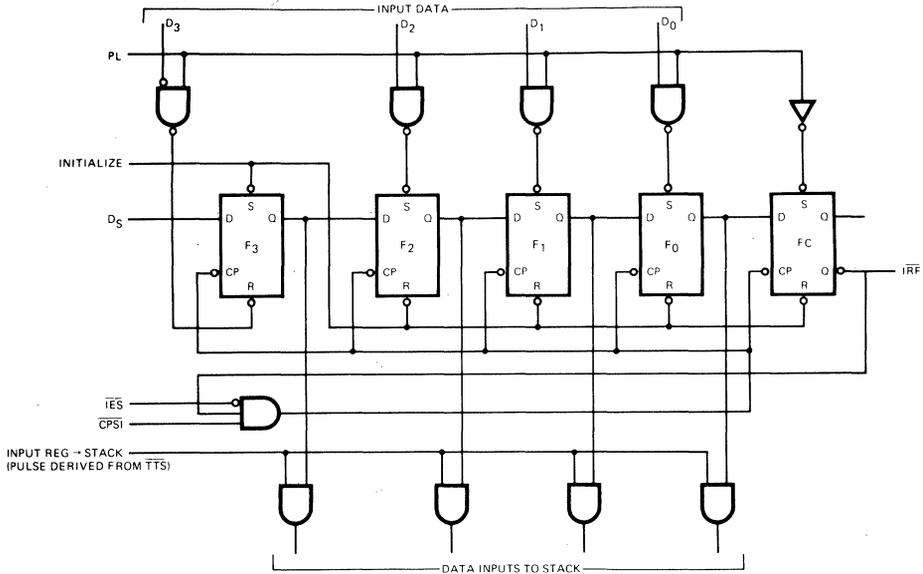

Fig. 1
Figure 1 is a conceptual logic diagram of the input section. As described later, this 5-bit register is initialized by setting the F3 flip-flop and resetting the other flip-flops. The Q-output of the last flip-flop (FC) is brought out as the "Input Register Full" output ($\overline{\text{IRF}}$). After initialization this output is HIGH.